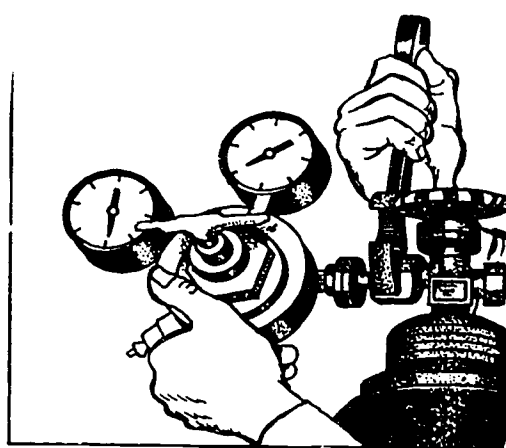

Figure 3. Tightening the Union Nut
4. Attach the oxygen regulator to the oxygen cylinder valve and tighten securely. Tighten clockwise with proper wrench (see figure 3).